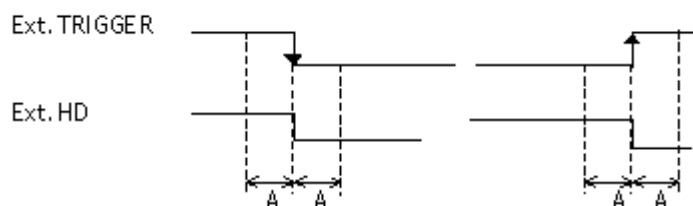
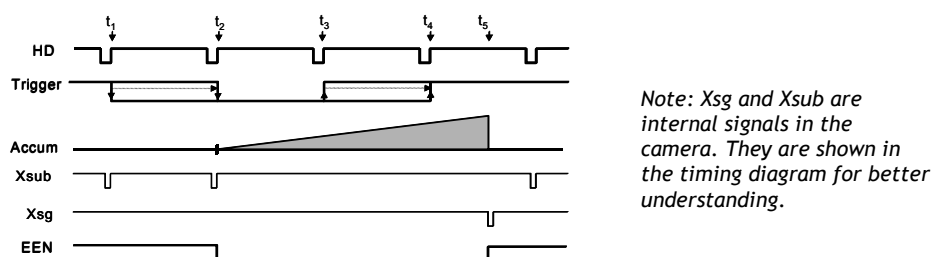

Fig. 14. Trigger/HD timing.
Fig. 15. Pulse Width H synchronous accumulation.
The accumulation is HD synchronously accumulation. The accumulation starts at the first HD after the trigger leading edge. Shown in fig. 15. To avoid the <1H jitter caused by this delay, synchronize the external trigger to HD as shown in fig. 14. The trigger level translations should be placed inside the time A, which is 8 μseconds.
- To avoid this shift (jitter), synchronize the camera with an external HD and make sure that the trigger pulse aligns to the HD signal as shown in Fig. 14.